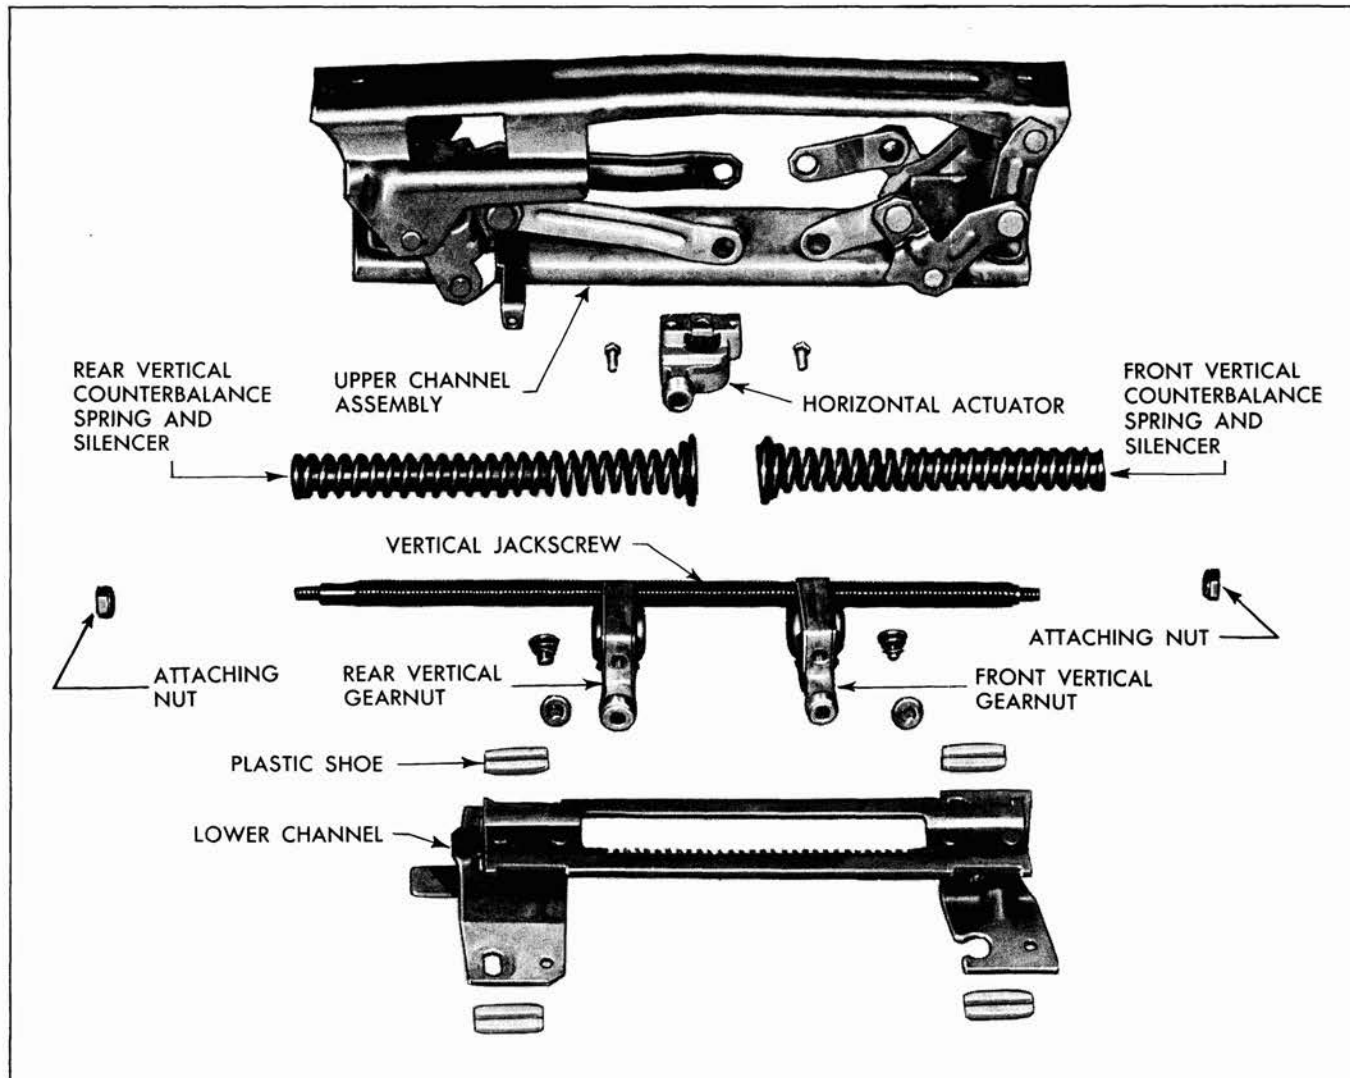

Fig. 8-9 Six Way Seat Adjuster
9. Disengage rear end of jackscrew from support and remove jackscrew with gear nuts and spring from adjuster. Rear assist spring and silencer may now be removed from jackscrew (Fig. 8-9).